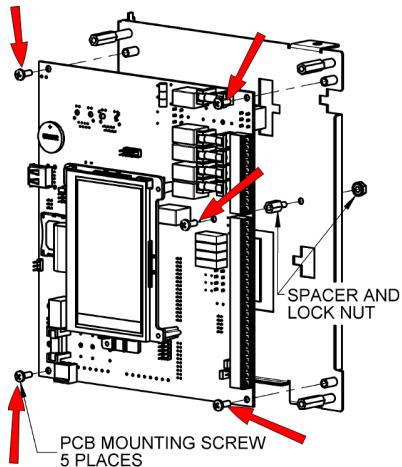

Figure 2 Swing-out mounting plate
2. Remove the five Phillips screws (see Figure 2). You will need to do this for both boards, starting with the old controller first.